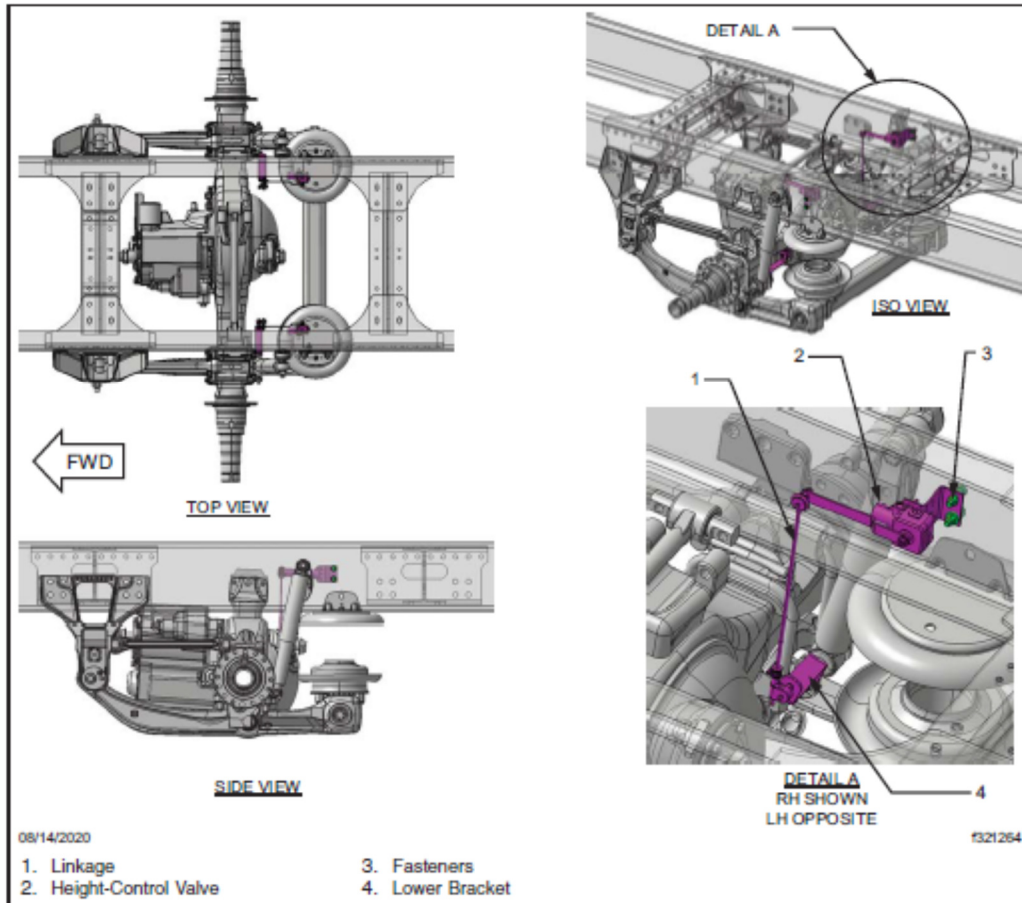

Fig. 1, Location of Height-Control Valves
4. Locate the height-control valves installed just rear of the mid-axle inside the left-hand and right-hand frame. See Fig. 1.